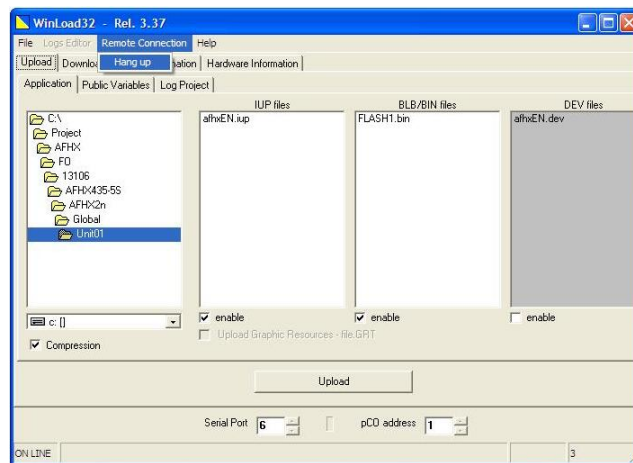

Figure 6.2.4
- vi. After the downloading process is done. Click on “Remote Connection” and “Hang Up” to disconnect the line. (Figure 6.2.4)